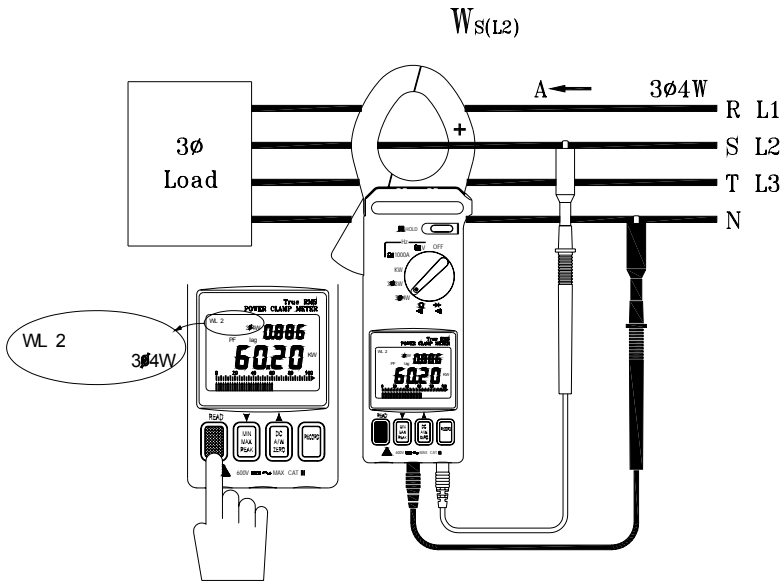

Figure 8
C. Measure $W_{T(L3)} / P_{FT(L3)}$ (refer to figure 8)